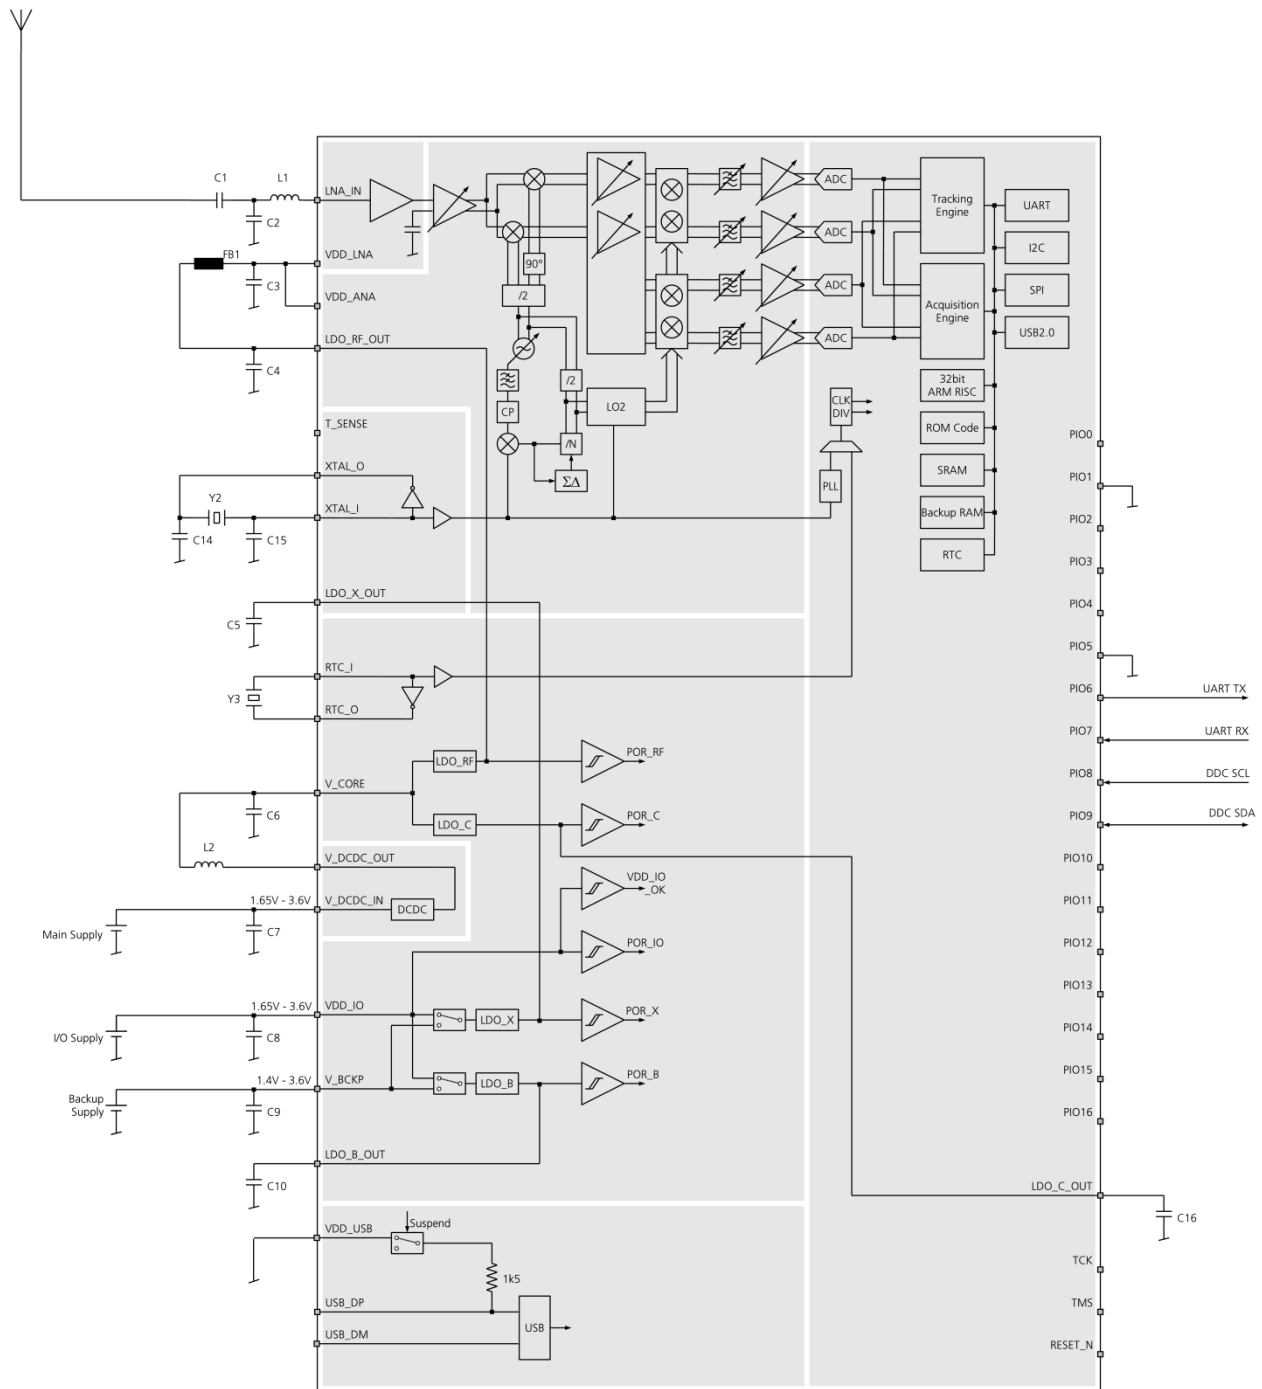

Figure 2: UBX-M8030 RF and baseband subsystems
3. RF - the RF domain supplies the RF subsystem. The LDO of the RF domain is called LDO\_RF. Its input is internally connected to the input of LDO\_C of the core domain (see Figure 2).
u-blox M8030 chips integrate a DC/DC converter, allowing reduced power consumption especially when using a main supply voltage above 2.5 V. To use the DC/DC converter the main power supply must be connected to V\_DCDC\_IN and a capacitor and an inductor must be added to connect V\_DCDC\_OUT to V\_CORE as shown in Figure 2. If a converter is not used, connect V\_DCDC\_IN/V\_DCDC\_OUT to V\_CORE.